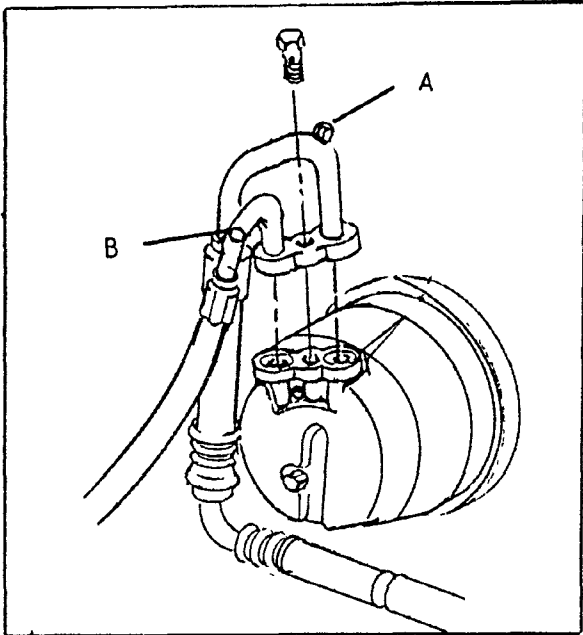

Fig. 80
Blue hose to low pressure service connection (A) Fig. 80.